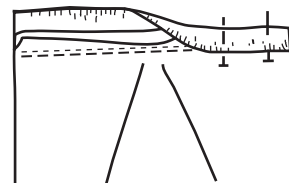

Figure 13
7. Fold binding over stitching, press, and pin carefully (Figure 13).